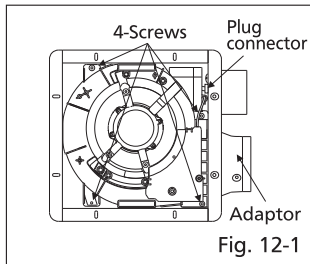

Fig. 12-1
1. Disconnect plug connector from receptacle and loosen 4 screws (but do not remove them from blower). (Fig. 12-1)